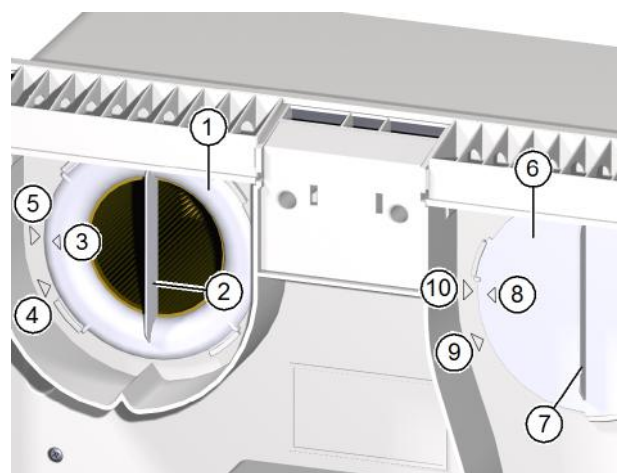

Fig. 18: Remove air filters
- ▶ Turn the filter ring (item 1 in Fig. 18) using the hand grip (item 2 in Fig. 18) anti-clockwise until the arrow on the filter ring (item 3 in Fig. 18) lines up with the arrow at the removal position (item 4 in Fig. 18).
- ▶ Turn the filter cover (item 6 in Fig. 18) using the hand grip (item 7 in Fig. 18) anti-clockwise until the arrow (item 8 in Fig. 18) on the filter cover lines up with the arrow at the removal position (item 9 in Fig. 18).
- ▶ Make sure that the filter ring is oriented so that the arrow on the filter ring (item 3 in Fig. 18 on page 24) lines up with the arrow for the removal position (item 4 in Fig. 18 on page 24).
- ▶ Turn the filter ring clockwise until the arrow on the filter ring (item 3 in Fig. 18 on page 24) lines up with the arrow for the locking position (item 5 in Fig. 18 on page 24).
- ▶ Check the position of the filter ring and filter cover. The hand grips must be vertical and the arrows on the filter ring and filter cover must line up with the arrows for the locking position (see Fig. 18 on page 24).